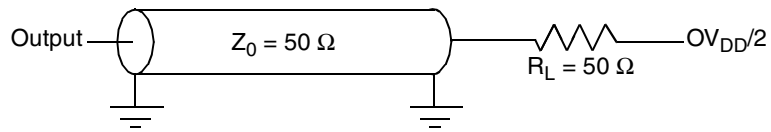
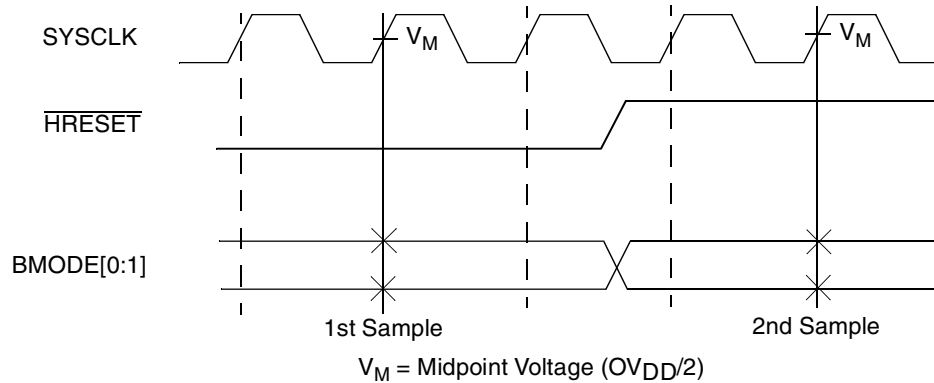
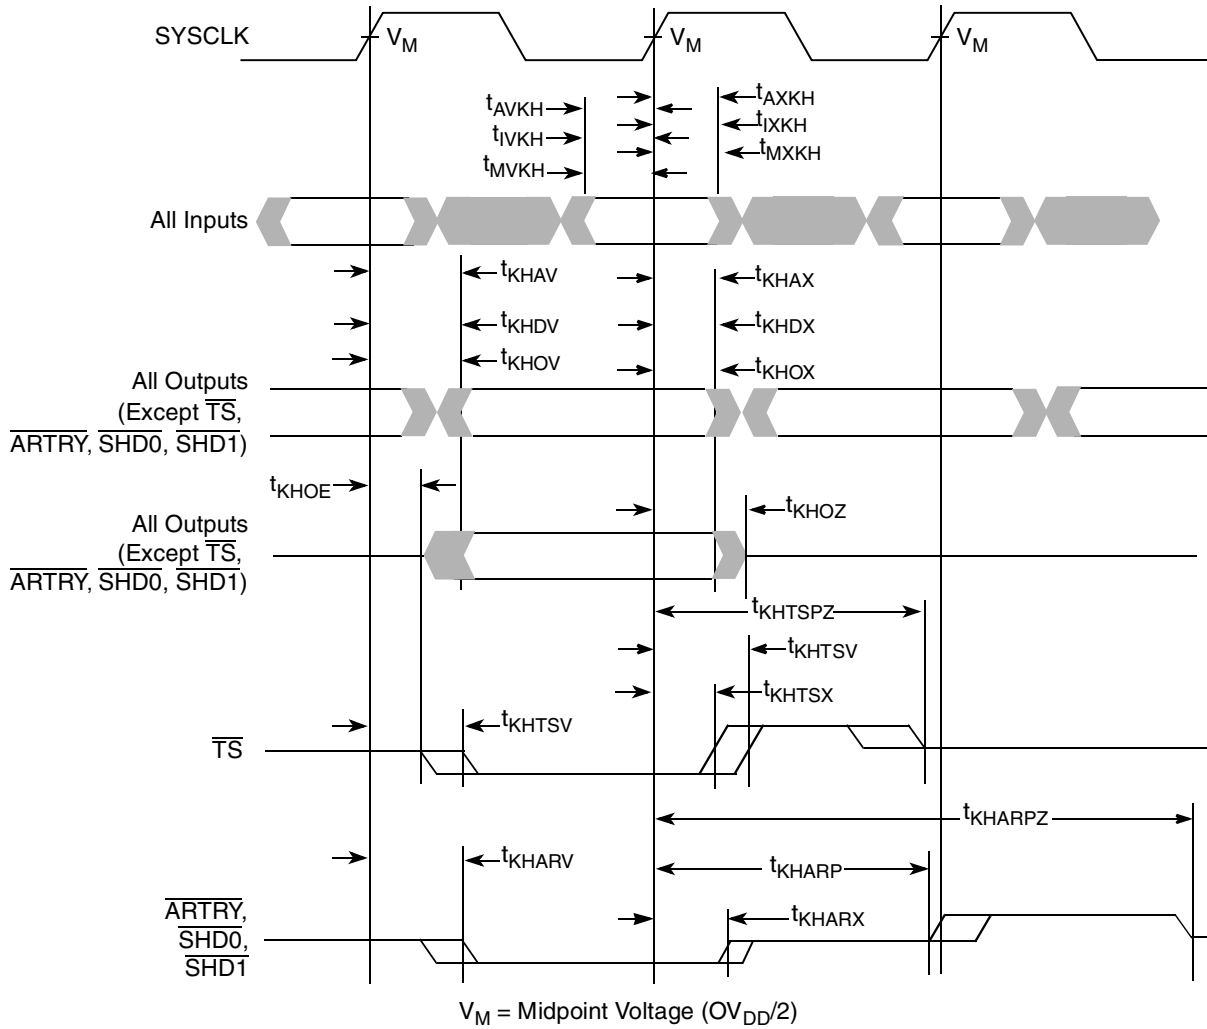

Figure 4. AC Test Load
Figure 5.  $\overline{\text{BMODE}}[0:1]$  Input Sample Timing Diagram
Figure 6. Input/Output Timing Diagram
Table 9 provides the processor bus AC timing specifications for the MPC7448 as defined in Figure 4 and Figure 5.
- All input specifications are measured from the midpoint of the signal in question to the midpoint of the rising edge of the input SYSCLK. All output specifications are measured from the midpoint of the rising edge of SYSCLK to the midpoint of the signal in question. All output timings assume a purely resistive 50-Ω load (see Figure 4). Input and output timings are measured at the pin; time-of-flight delays must be added for trace lengths, vias, and connectors in the system.
- The symbology used for timing specifications herein follows the pattern of  $t_{(signal)(state)(reference)(state)}$  for inputs and  $t_{(reference)(state)(signal)(state)}$  for outputs. For example,  $t_{VKH}$  symbolizes the time input signals (I) reach the valid state (V) relative to the SYSCLK reference (K) going to the high (H) state or input setup time. And  $t_{KHOV}$  symbolizes the time from SYSCLK(K) going high (H) until outputs (O) are valid (V) or output valid time. Input hold time can be read as the time that the input signal (I) went invalid (X) with respect to the rising clock edge (KH) (note the position of the reference and its state for inputs) and output hold time can be read as the time from the rising edge (KH) until the output went invalid (OX).
- According to the bus protocol,  $\overline{TS}$  is driven only by the currently active bus master. It is asserted low and precharged high before returning to high impedance, as shown in Figure 6. The nominal precharge width for  $\overline{TS}$  is  $t_{SYSCLK}$ , that is, one clock period. Since no master can assert  $\overline{TS}$  on the following clock edge, there is no concern regarding contention with the precharge. Output valid and output hold timing is tested for the signal asserted. Output valid time is tested for precharge. The high-impedance behavior is guaranteed by design.
- According to the bus protocol,  $\overline{ARTRY}$  can be driven by multiple bus masters through the clock period immediately following  $\overline{AACK}$ . Bus contention is not an issue because any master asserting  $\overline{ARTRY}$  will be driving it low. Any master asserting it low in the first clock following  $\overline{AACK}$  will then go to high impedance for a fraction of a cycle, then negated for up to an entire cycle (crossing a bus cycle boundary) before being three-stated again. The nominal precharge width for  $\overline{ARTRY}$  is  $1.0 t_{SYSCLK}$ ; that is, it should be high impedance as shown in Figure 6 before the first opportunity for another master to assert  $\overline{ARTRY}$ . Output valid and output hold timing is tested for the signal asserted. The high-impedance behavior is guaranteed by design.
- $\overline{BMODE}[0:1]$  and  $BVSEL[0:1]$  are mode select inputs.  $\overline{BMODE}[0:1]$  are sampled before and after  $\overline{HRESET}$  negation.  $BVSEL[0:1]$  are sampled before  $\overline{HRESET}$  negation. These parameters represent the input setup and hold times for each sample. These values are guaranteed by design and not tested.  $\overline{BMODE}[0:1]$  must remain stable after the second sample;  $BVSEL[0:1]$  must remain stable after the first (and only) sample. See Figure 5 for sample timing.
Figure 4 provides the AC test load for the MPC7448.
Figure 5 provides the  $\overline{\text{BMODE}}[0:1]$  input timing diagram for the MPC7448. These mode select inputs are sampled once before and once after  $\overline{\text{HRESET}}$  negation.
Figure 6 provides the input/output timing diagram for the MPC7448.